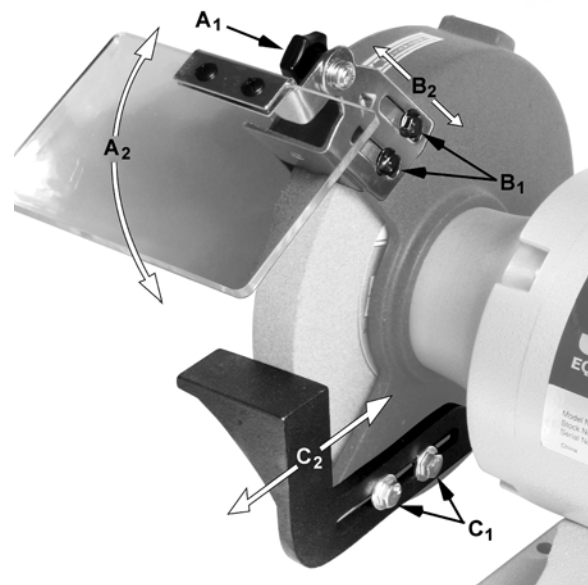

Figure 3
1. Loosen *lock knob* (A₁, Fig. 3).
2. Adjust *eye shield* to the desired tilt angle (A₂, Fig. 3).
1. Loosen two *hex cap screws* (B₁, Fig. 3) with a 10mm wrench.
2. Slide the spark guard (B₂, Fig. 3) to 1/16" distance from the grinding wheel surface.
3. Tighten screw (B₁, Fig. 3).
1. Loosen two *hex cap screws* (C₁, Fig. 3) with a 12mm wrench.
2. Slide the tool rest (C₂, Fig. 3) to a distance of 1/16" from the grinding wheel.
3. Tighten screws (C₁, Fig. 3).